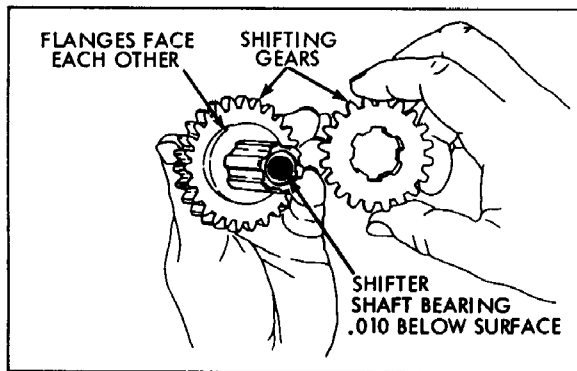

Figure 3-11
- b. Assemble the two flanged gears onto the shifter shaft. (Figure 3-11) Note that the large gear is placed on the shaft first with the flange side toward the needle bearing in the end of the shifter shaft. Slide on the smaller gear with the flange toward that of the larger gear. (Figure 3-11, 3-12).